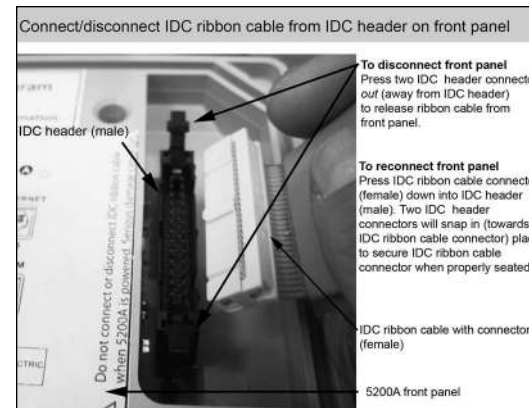

Figure 3.5
2. Disconnect front panel ribbon cable by pressing the two IDC header connectors located on the front panel out (away from the IDC header) - figure 3.5.
12. Connect 5200A display board to ribbon cable -figure 3.5.